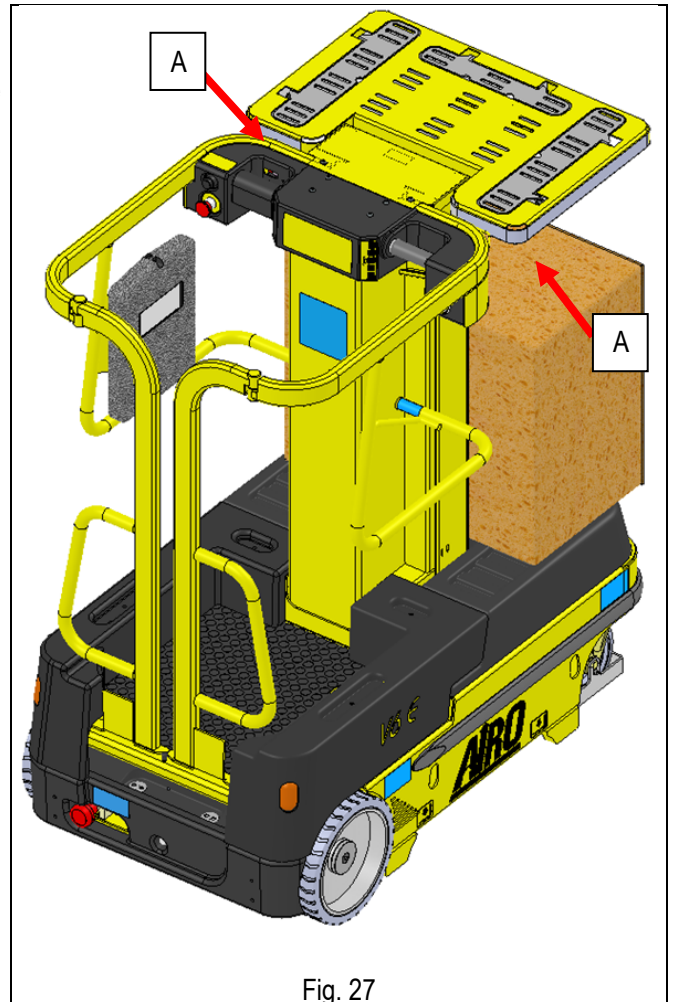

Fig. 27
- **Through the 4 fastening holes** located on the sides of the machine, it can be lifted by means of hooks and steel ropes (with safety factor = 5, see machine weight in Technical Features) connected to the provided holes as indicated in the Fig. 27.